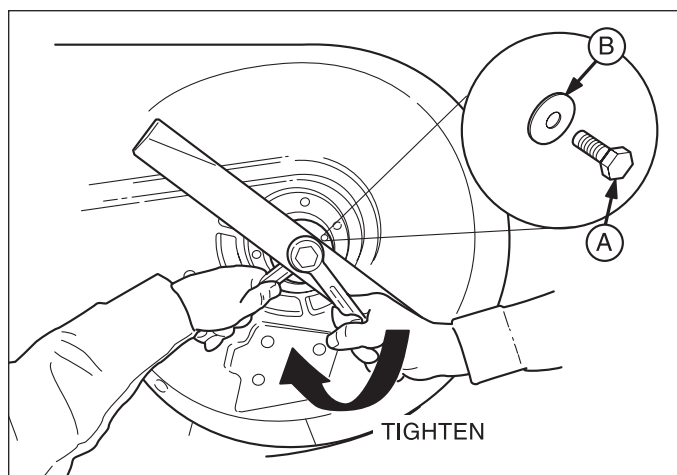

Figure 20. Installing The Blade
5. Reinstall each blade with the tabs pointing up toward deck as shown in Figure 20. Secure with a bolt and flat washer and torque bolts to 70 ft.lbs. (94 N.m.).